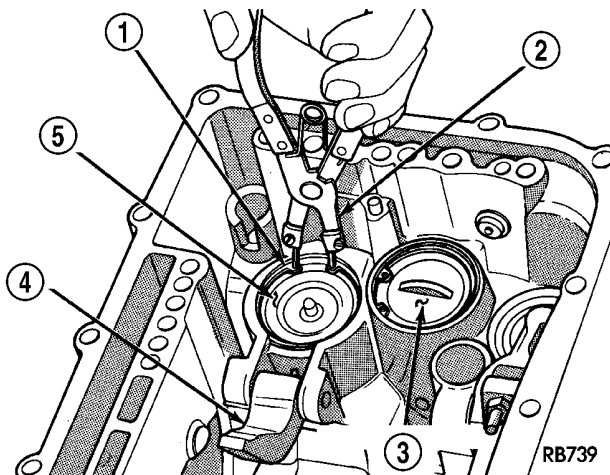

Fig. 19 Kickdown Servo Snap Ring
(20) Remove kickdown servo snap ring (Fig. 19).